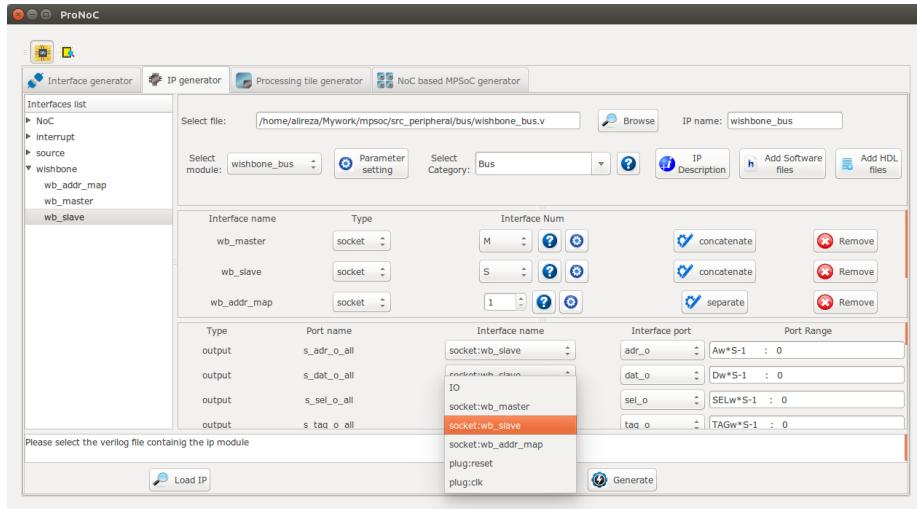

Figure 3.3: Wishbone Bus module interface mapping snapshot.
10. After adding the interfaces, you must map the top module ports to the interfaces ports. For each top-level module port you need to select the interface name and interface port. Figure 3.3 illustrates a snapshot of interface mapping for Wishbone Bus module.